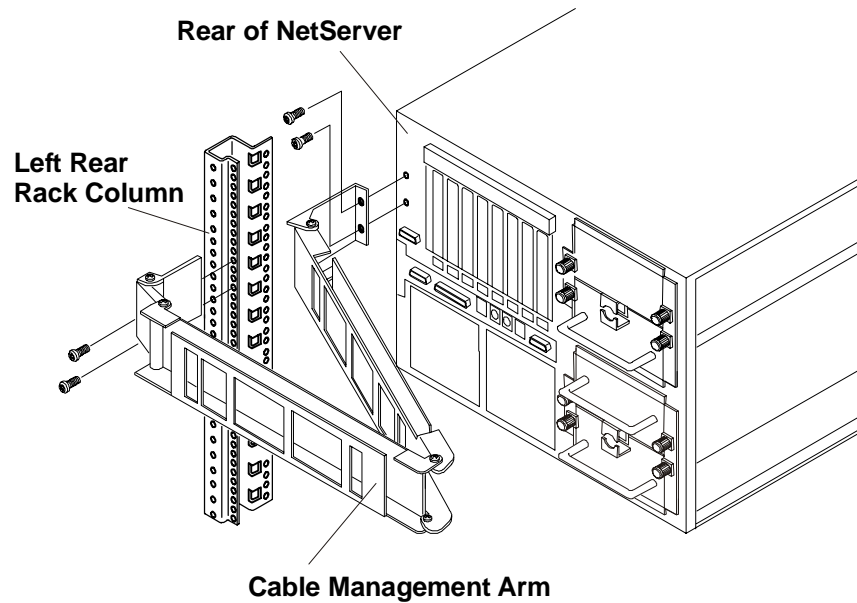

Figure 3-8. Attaching the Cable Management Arm
The Cable Management Arm for the HP NetServer can only be mounted on HP Systems racks. The HP NetServer Cable Management Arm allows the cables, including the power cords, to move in and out with the HP NetServer chassis on its slides without being accidentally disconnected (see Figure 3-8).
2. At the rear of the NetServer, place rack nuts on the left column in the 17th and 18th holes above the baseline of the HP NetServer (see Figure 3-8).